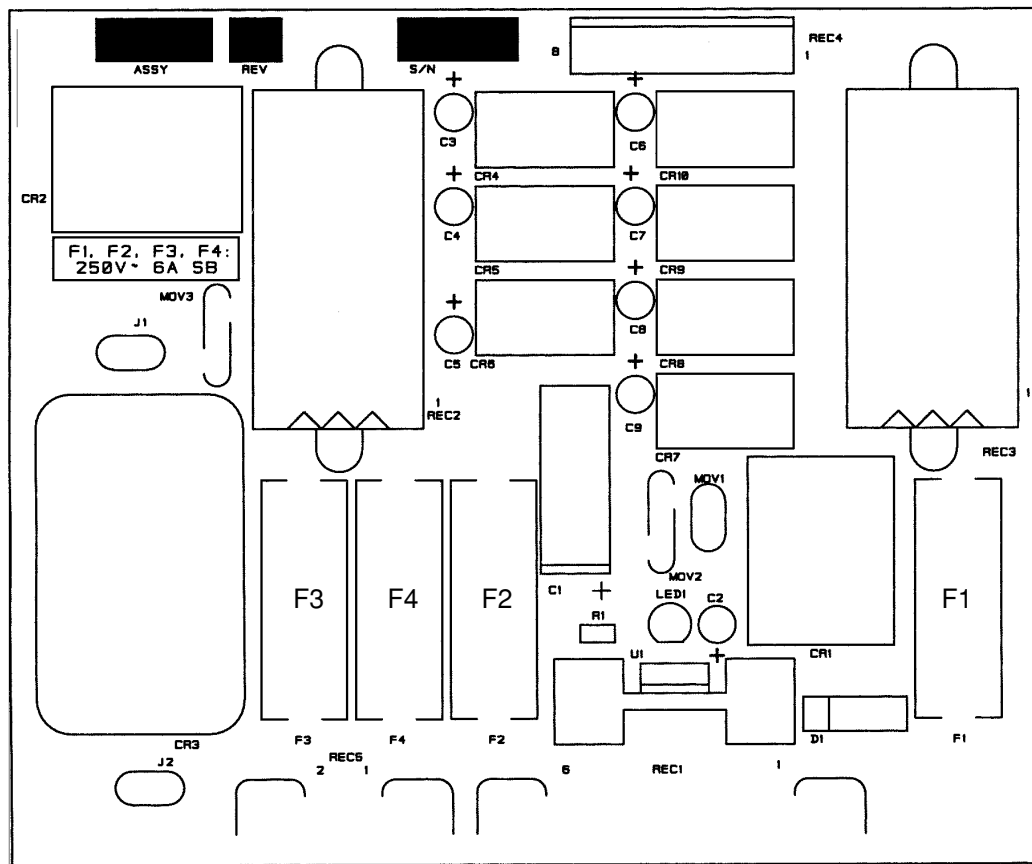

Figure 8-2 Power Distribution Board PCB1
- Measure voltage at Power Distribution Board PCB1. Refer to Figure 8-2 for detail of PCB1. Look on the board for fuses F1- F4. Measurements between each fuse and chassis ground should be as follows:
2. The green POWER ON pushbutton switch PB1 is pressed, the POWER ON indicator illuminates, but the fans are not running.	<p>2.1. CR2 on the power distribution board is defective. Check that CR2 switches when POWER ON pushbutton is pressed. See Figure 8-2 for location of CR2. If CR2 is defective, replace PCB1.</p> <p>2.2. Connector from power distribution board is not seated securely. Check pins, connectors and associated wiring for good continuity. Repair or replace, if necessary.</p>
<p>3. The green POWER ON pushbutton switch PB1 is pressed, the fans are operating, but the green POWER ON indicator does not illuminate.</p>	<p>3.1. Pushbutton PB1 was not held down for a long enough period of time. Press and hold PB1 for a minimum of 5 seconds.</p> <p>3.2. Relay CR1 on the power distribution board is defective. Check that CR1 switches when POWER ON pushbutton is pressed. See Figure 8-2 for location of CR1. If CR1 is defective, replace PCB1.</p> <p>3.3. One or more of the STATUS LEDs remains illuminated, indicating a fault condition. To troubleshoot STATUS fault conditions, see Status LED Troubleshooting later in this section.</p>